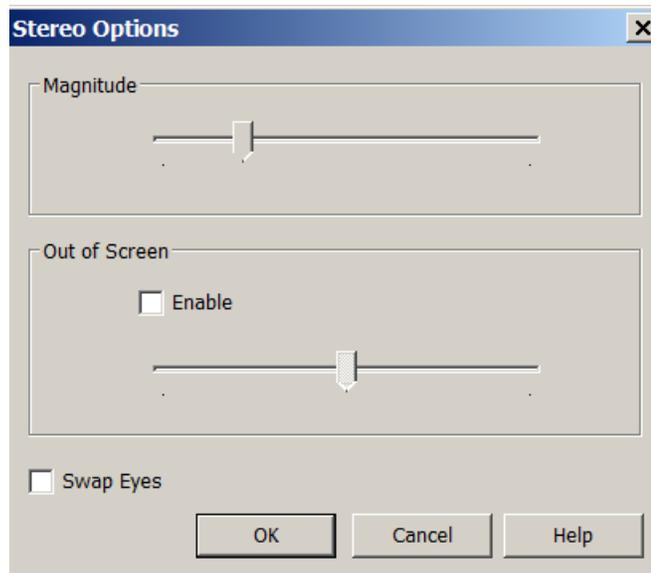

Figure 8: 3D settings for Navisworks
- Select Units and Transform by right clicking on the object as shown below in figures 8 and 9